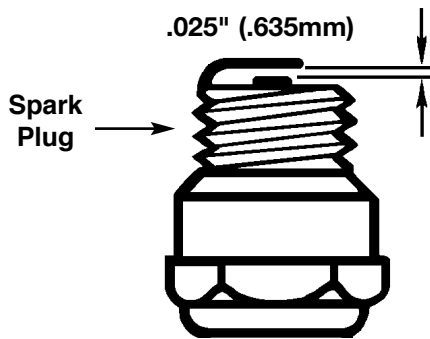

Fig. 25
2. Spark plug gap = .025" (.635mm) (Figure 25).
3. Clean and gap spark plug or install a new spark plug with proper gap. (Fig. 25)